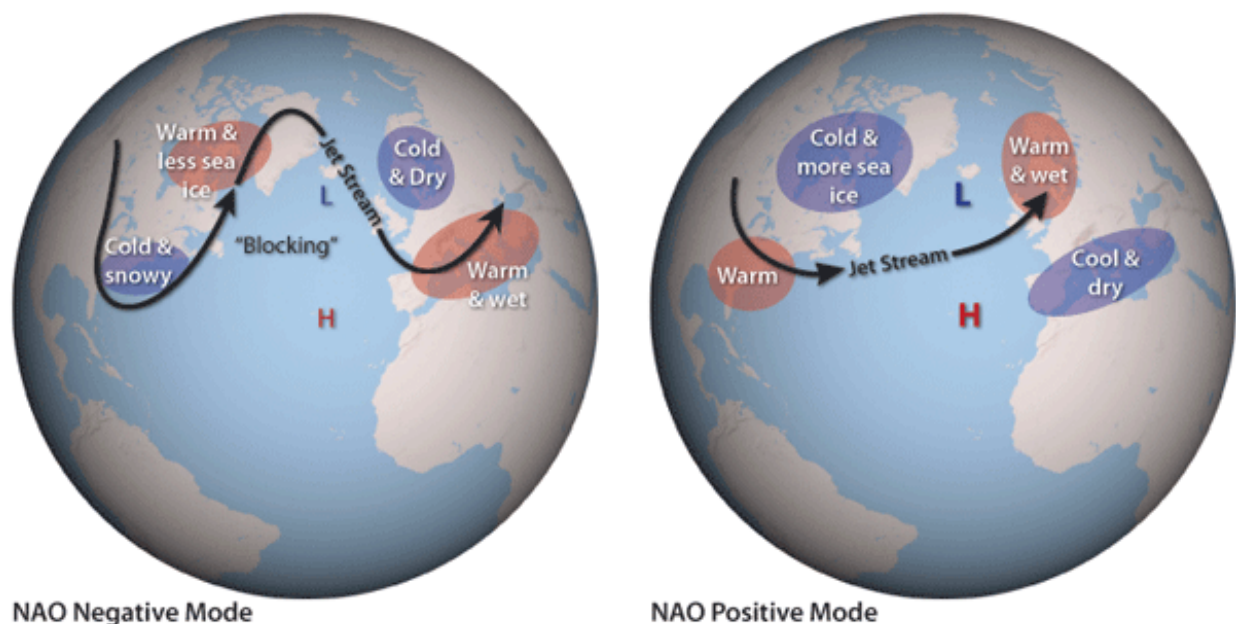

Figure 3. Negative NAO. Source: NOAA.gov
- The crop was seeded at higher-than-optimal plant populations (Figure 3)
Figure 3. High plant populations in a winter canola plot in mid-October. Competition for light places the growing point well above the soil surface, increasing the risk of winterkill. Photo by Ignacio A. Ciampitti, K-State Research and Extension.
Figure 3. Effect of soybean residue on wheat cold damage. Yellow portions of the field correspond to greater residue left by the combine at soybean harvest, and resulted in poorer seed-soil contact at wheat planting. As a consequence, the plants are more exposed to colder temperatures and potential injury. Photo provided by Romulo Lollato, K-State Research and Extension.
temperatures as shown in Figure 3. If the wheat was bigger-than-normal, the plants may look “rough” with a lot of brown, dead-looking foliage on the soil surface. That doesn’t mean the plants are dead. The important factor will be whether the crown below the soil surface remains alive. Having a well-developed secondary root system will help the plants survive. As temperatures did not drop as low in the central portion of the state, the concern with possible cold injury is not as great as fields that recently emerged in northwest Kansas.
Given the uncertainty of the La Niña, other factors may have a stronger influence. Two patterns that deserve attention are the North Atlantic Oscillation (NAO) and the Madden-Julian Oscillation (MJO). The NAO is a comparison of high and low pressure in the Atlantic basins. When the NAO is negative (with a weak gradient between high pressure in the subtropics and low pressure over Iceland), the east coast of the United States tends to have stronger cold outbreaks with more snow (Figure 3). Some of that can clip the eastern Plains region.